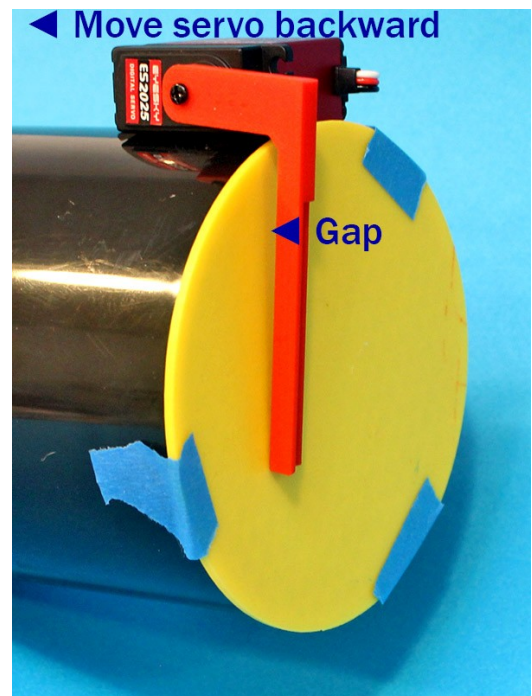

Figure 17: Move servo **backward** to remove **top** gap
- If there is a gap between the **top** of the bracket and the lens cap (Figure 17), slide the servo **backward** and rotate the bracket until it rests flat against the cap.